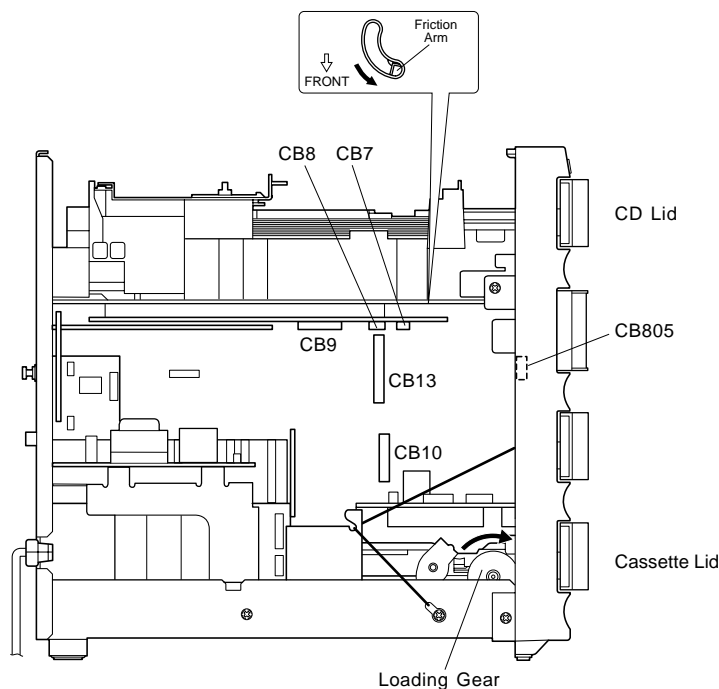

Fig. 2
- Push the Friction Arm (the bottom side of the CD Mechanical Unit) with the Ejecting Tool or a tool like as shown in Fig. 2.
- Pull the Tray forward approx. 5cm (2") and remove the CD Lid in Fig. 2.
- Disconnect the Flat Connecting Cables (CB9) and remove 2 connectors (CB8 and CB7) in Fig. 2
- Rotate the Loading Gear, then open the Tray and remove the Cassette Lid in Fig. 2.
- Disconnect the flat connecting cables (CB10 and CB13) and remove a connector (CB805) in Fig. 2.
- k. Connect the flat connecting cables (CB10 and CB13) and remove a connector (CB805) in Fig. 2.